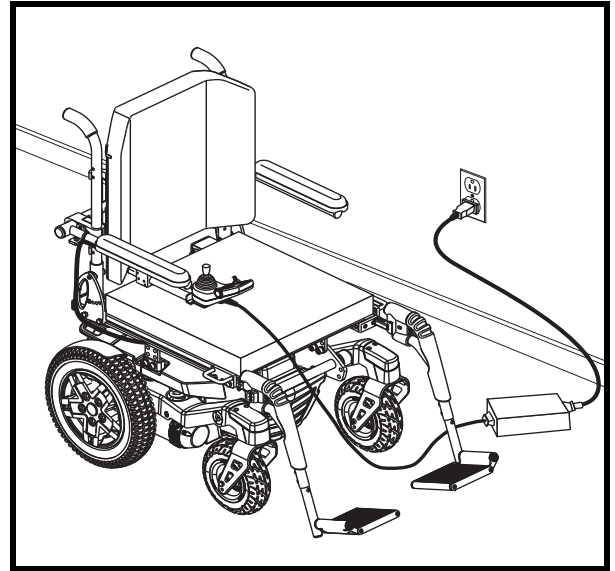

Figure 17. Battery Charging
3. Plug the off-board charger into the off-board charger/programming socket on the controller. See **figure 17**.